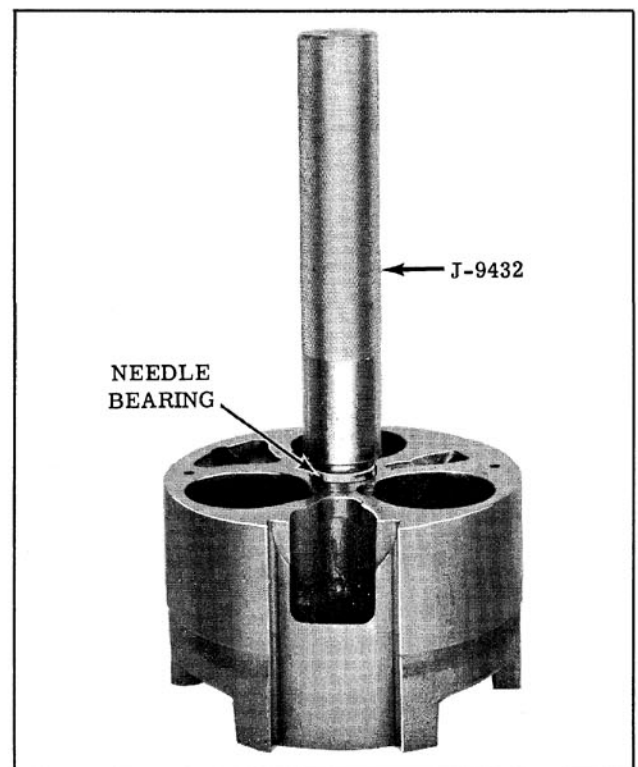

Fig. 14-115 Installing Drive Shaft Bearing
5. If necessary to remove the drive shaft bearing from the rear cylinder half, remove the bearing with a brass drift, then install a new bearing, with manufacturers name towards tool, as shown in Fig. 14-115.